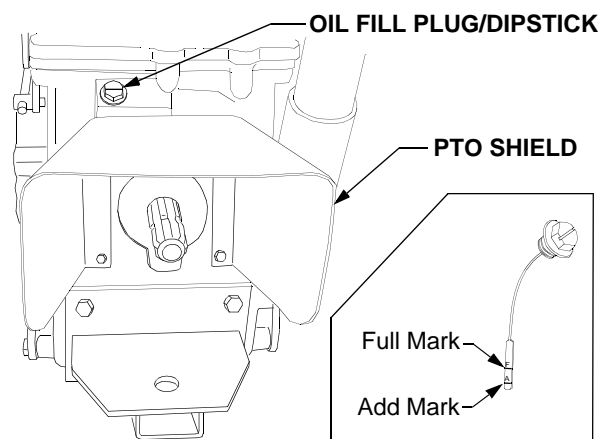

Figure 42
The oil fill plug/dipstick is located at the rear of the tractor, above the rear PTO shield. See Figure 42.
- Clean the area around the oil fill plug/dipstick to prevent debris from entering the transmission housing. See Figure 42.
- Withdraw the dipstick and wipe it clean, then reinsert and screw in all the way. Unscrew and withdraw again to read the oil level. Always keep the oil level between the add and full marks on the dipstick (See Figure 42).
- Clean the area around the transmission drain plug and the oil fill plug/dipstick to prevent debris from entering the transmission. Refer to Figure 42 and Figure 43.
- Clean the area around the transmission oil fill plug/dipstick to prevent debris from entering the transmission (Refer to Figure 42) and remove the plug.